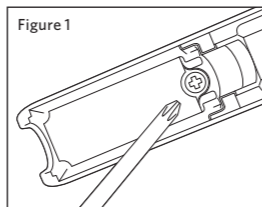

Figure 1
1. Remove battery cover with Phillips head screwdriver\* (Figure 1).